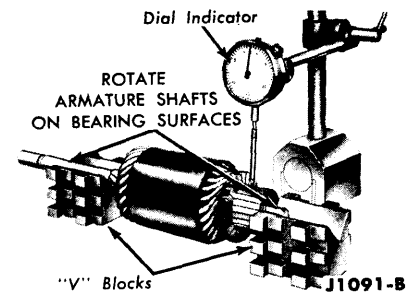

FIG. 7—Commutator Runout Check
4. Check the commutator for runout (Fig. 7). Inspect the armature shaft and the two bearings for scoring and excessive wear. If the commutator is rough, or more than 0.005